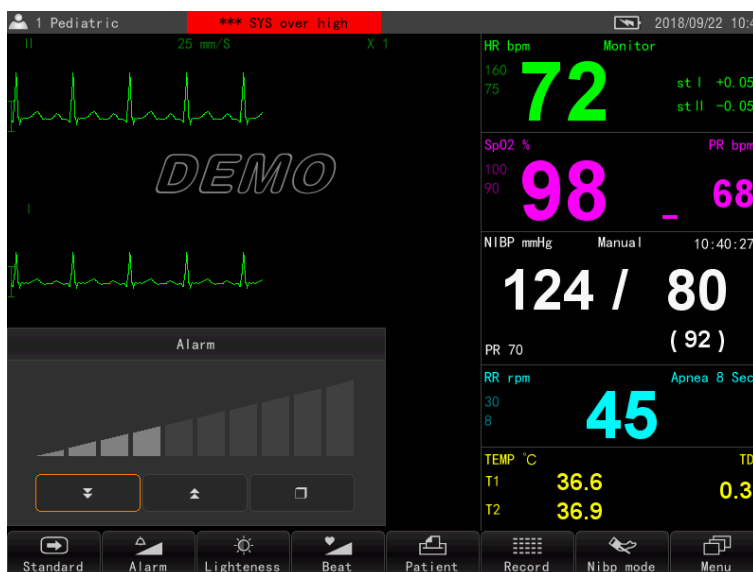

Fig. 4-12
- (1) Interface switching button: The name of the current interface is displayed on the button. When the button is pressed, the display interface of the monitor and the interface name on the button will be switched accordingly.
- (2) Alarm tone: Adjust the alarm volume of the monitor at the time of alarm. Ten levels are available. After entering the volume adjustment interface (as shown in Fig. 4-12), you can see three buttons, which from left to right are: lower alarm volume, increase alarm volume, and exit setting window;